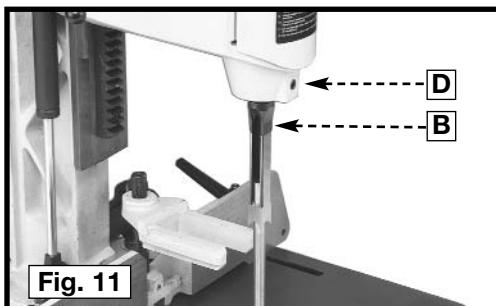

Fig. 11
2. Loosen the screw (D) Fig. 11, and push the chisel (B) up through the hole in the head as far as possible. Lower the chisel (B) 1/16" to 3/16" and tighten the set screw (D).